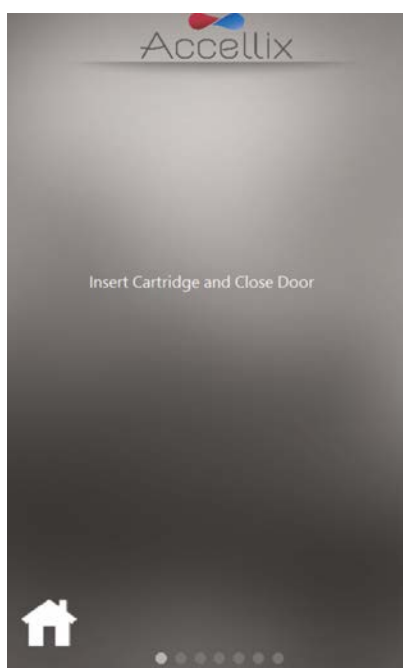

Figure 27: Insert Cartridge screen
5. When prompted by the instrument (Figure 27), open the door by pressing down on the front right-hand indent corner of the door and releasing. Insert the cartridge into the instrument by pushing it down using the top handle, then, when the cartridge is inserted, push the handle on the right-hand side of it a bit more until a click is heard and felt, ensuring that the cartridge has been inserted fully into the instrument Cartridge Handling Unit.